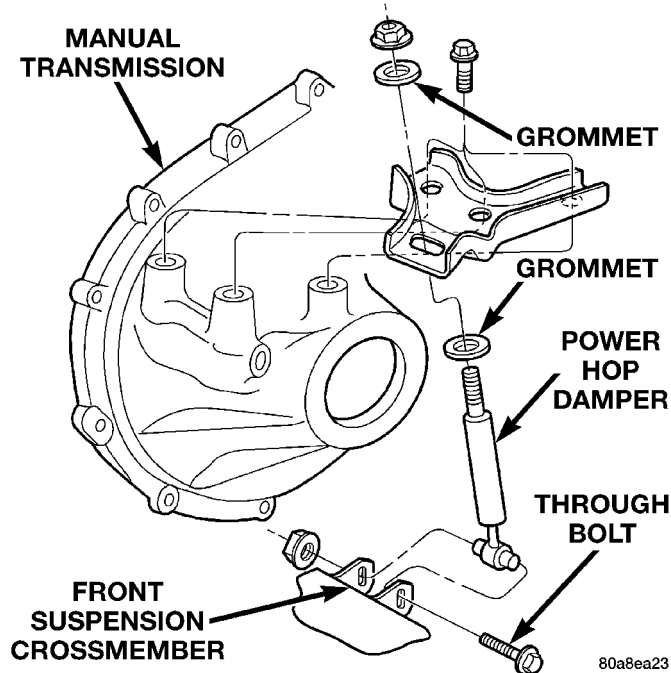

Fig. 16 Power Hop Damper
- (1) Remove the thru-bolt and nut from the front suspension crossmember (Fig. 16).
- (2) Remove the damper nut and grommets. Remove the damper.
- (3) Remove the power hop damper bracket, if necessary.
- (4) Reverse removal procedure for installation. Tighten all bolts and nuts to 54 N·m (40 ft. lbs.).